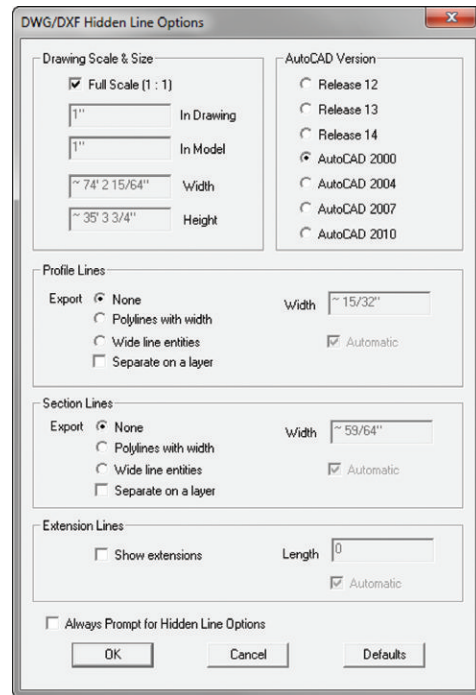

Figure 18.12 The 2D Export dialog
1. Click on the File drop-down menu and choose Export > 2D Graphic (Figure 18.12).